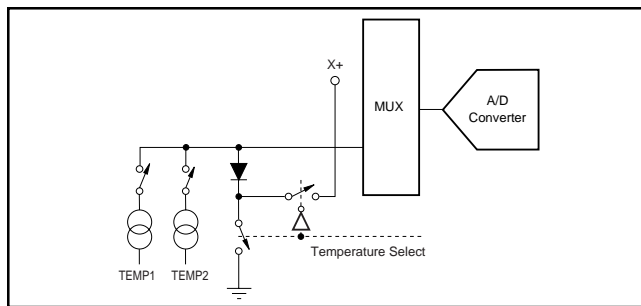
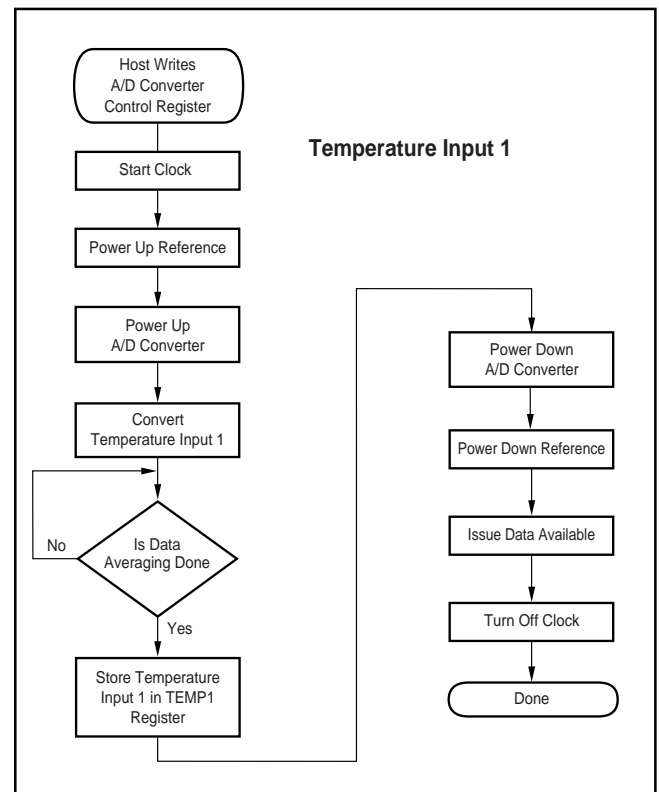

FIGURE 18. Functional Block Diagram of Temperature Measurement Mode.
FIGURE 19. Single Temperature Measurement Mode.
The TSC2000 offers two modes of temperature measurement. The first mode requires calibration at a known temperature, but only requires a single reading to predict the ambient temperature. A diode, as shown in Figure 18, is used during this measurement cycle. This voltage is typically 600mV at +25°C with a 20µA current through it. The absolute value of this diode voltage can vary a few millivolts; the temperature coefficient (TC) of this voltage is very consistent at $-2.1\text{mV}/^\circ\text{C}$. During the final test of the end product, the diode voltage would be stored at a known room temperature, in system memory, for calibration purposes by the user. The result is an equivalent temperature measurement resolution of 0.3°C/LSB. This measurement of what is referred to as Temperature 1 is illustrated in Figure 19.